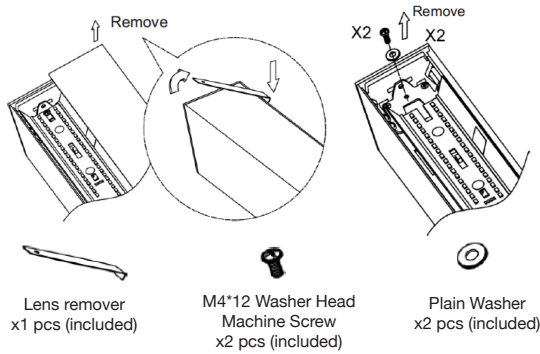

Fig. 9.1
1. Remove lens and LED reflector strip. (Fig. 9.1)